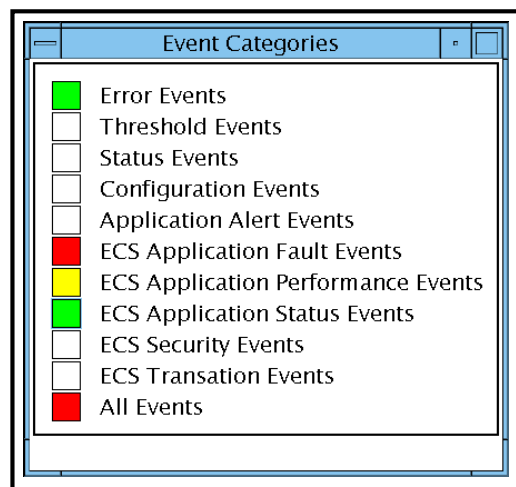

Figure 3. HP OpenView Alarm Categories Window
- The registration in the Events Browser window triggers a change for display in an **Alarm Categories** window (see Figure 3) to provide a notification that an event has occurred in the category of that Alarms Browser window. The display is a color change in a button on the Alarm Categories window corresponding to the event category. The color of the button indicates the highest severity event in the category. The default categories included in the Alarm Categories window are: